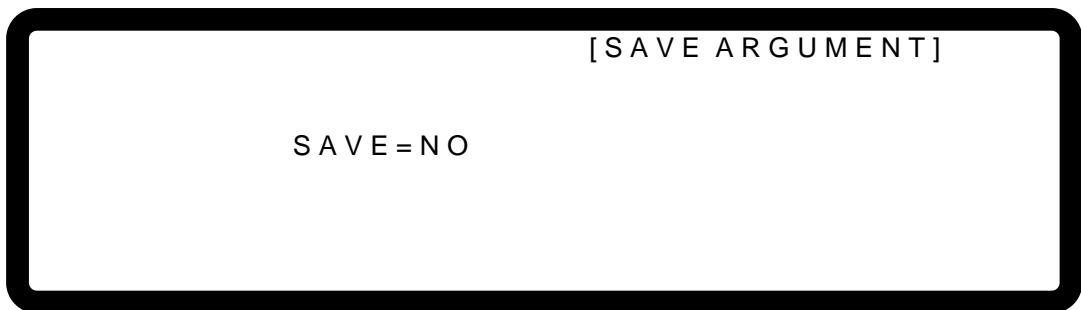

Figure 3-140
9. The voltage calibration is done when the above actions are completed. To save the calibrated values, press “**SAVE**” and a confirmation screen will appear as shown in Figure 3-140. Press “**1**” or turn the “Rotary” (○) knob to set SAVE=YES and press “**ENTER**” to save it. If there is no need to save it, press “**EXIT**” to return to the Calibration screen.